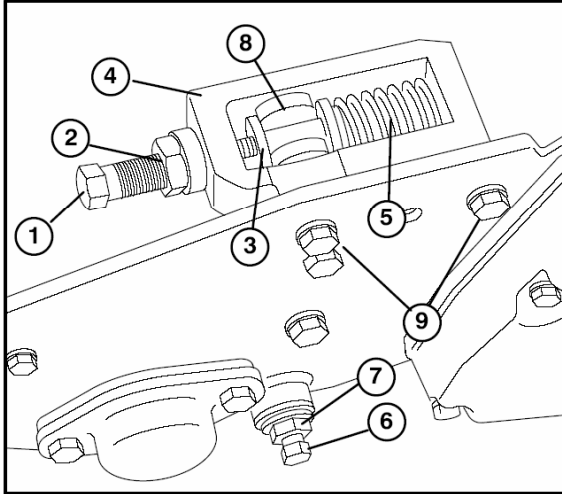

Figure 1
1. Loosen jam nut securing each bedbar adjusting screw to each bedbar adjuster (Fig. 1).
2. Loosen each bedbar adjusting screw until thrust washer bottoms out on frame adjuster (Fig. 1).
3. Using a spring compressor or clamp, compress springs on bedbar adjusting screws to free bedbar from bedbar adjusters (Fig. 1).
4. On each side of machine, loosen the jam nut securing bedbar bolt (Fig. 1)
5. Remove each bedbar bolt allowing bedbar to be pulled downward and removed from machine ((Fig. 1). Account for (4) washers on each bedbar bolt.
6. Remove (2) capscrews and washers securing each bedbar adjuster to sideplate (Fig. 1). Remove bedbar adjuster.